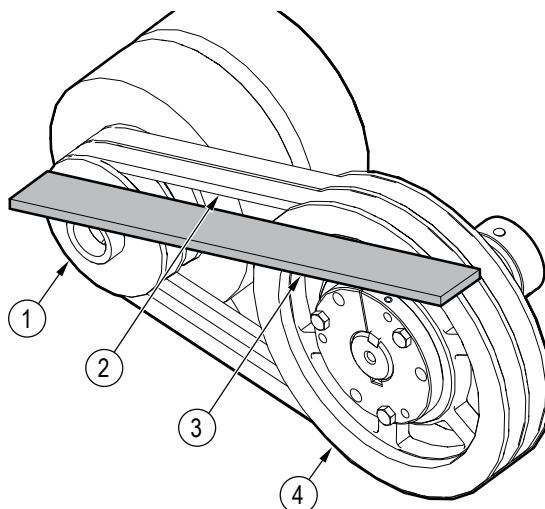

Figure 42—Check the drive belt alignment
Make sure that the straight-edge is parallel with the face of the rotor sheave. See *Figure 42*.
- If the edge of the engine clutch flywheel aligns with the straight-edge, the drive belt is aligned. The following steps are not necessary. See *Figure 42*.